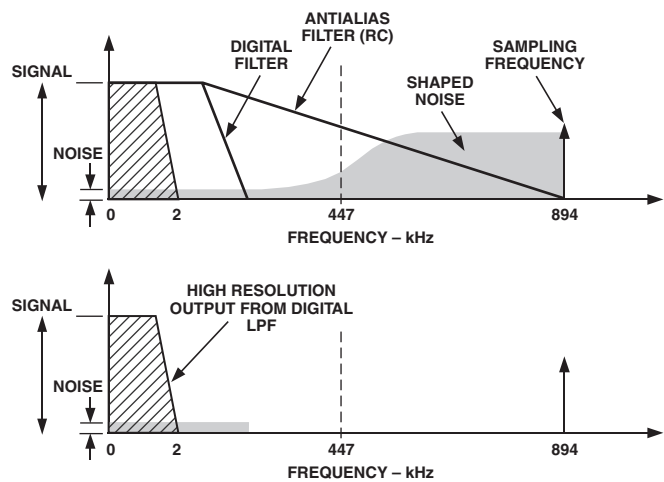
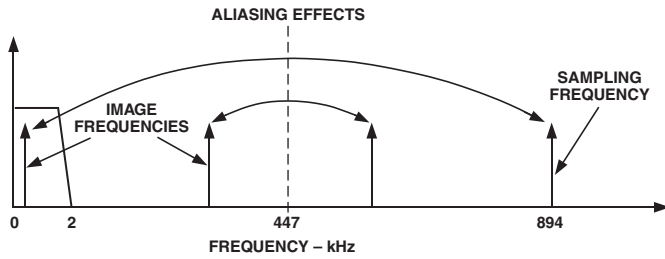

Figure 20. Noise Reduction Due to Oversampling and Noise Shaping in the Analog Modulator
Figure 21. ADC and Signal Processing in Channel 1
than the bandwidth of interest. For example, the sampling rate in the ADE7759 is CLKIN/4 (894 kHz) and the band of interest is 40 Hz to 2 kHz. Oversampling has the effect of spreading the quantization noise (noise due to sampling) over a wider bandwidth. With the noise spread more thinly over a wider bandwidth, the quantization noise in the band of interest is lowered—see Figure 20. However, oversampling alone is not an efficient enough method to improve the signal to noise ratio (SNR) in the band of interest. For example, an oversampling ratio of 4 is required just to increase the SNR by only 6 dB (one bit). To keep the oversampling ratio at a reasonable level, it is possible to shape the quantization noise so that the majority of the noise lies at the higher frequencies. This is what happens in the sigma-delta modulator: the noise is shaped by the integrator, which has a high-pass type response for the quantization noise. The result is that most of the noise is at the higher frequencies, where it can be removed by the digital low-pass filter. This noise shaping is also shown in Figure 20.
Figure 20 also shows an analog low-pass filter (RC) on the input to the modulator. This filter is present to prevent aliasing. Aliasing is an artifact of all sampled systems. Basically it means that frequency components in the input signal to the ADC that are higher than half the sampling rate of the ADC will appear in the sampled signal at a frequency below half the sampling rate. Figure 21 illustrates the effect. Frequency components (arrows shown in black) above half the sampling frequency (also known as the Nyquist frequency, i.e., 447 kHz) get imaged or folded back down below 447 kHz (arrows shown in grey). This will happen with all ADCs regardless of the architecture. In the example shown, it can be seen that only frequencies near the sampling frequency (894 kHz) will move into the band of interest for metering, i.e., 40 Hz–2 kHz. This allows us to use a very simple LPF (low-pass filter) to attenuate these high frequencies (near 900 kHz) and to prevent distortion in the band of interest. For a conventional current sensor, a simple RC filter (single pole) with a corner frequency of 10 kHz will produce an attenuation of approximately 40 dB at 894 kHz—see Figure 20. The 20 dB per decade attenuation is usually sufficient to eliminate the effects of aliasing for conventional current sensor.